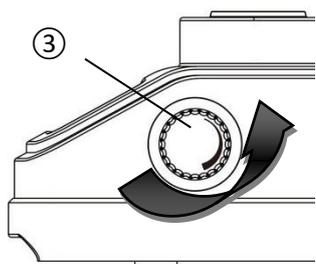
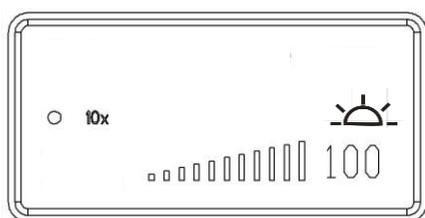

Fig.2
Fig.3
4-2 Adjust the brightness and color temperature (Fig.2,3,4,5,6,7)
The adjustment knob (3) adjust the brightness when the screen is shown as Figure 3. Turning the brightness adjustment knob according to the direction indicated by an arrow on the figure 2, the brightness decreases. On the contrary, the brightness strengthen.
The knob adjust the color temperature when the screen is shown as Figure 4. Turning the color temperature adjustment knob according to the direction indicated by an arrow on the figure 2, the color temperature decreases. On the contrary, the color temperature strengthen.